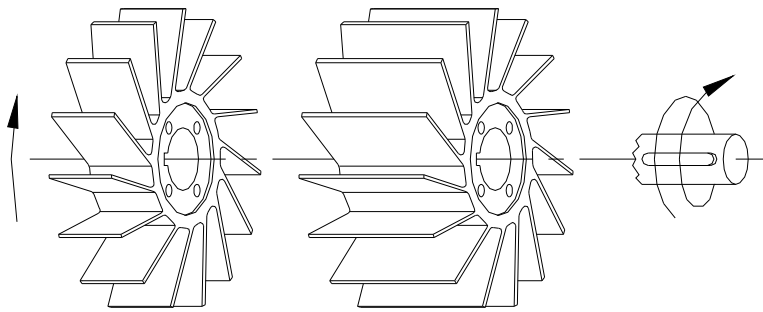

Fig. 24 - Pumps series TRH
- Place the pump in the vertical position resting it on the face of the bearing housing. Insert on the shaft the keys VDMA 940.1 (.2) of impeller VDMA 230 (.1) depending upon the pump series. Place on discharge casing VDMA 107 three (3) small paper spacers having 0.1 mm thickness (impeller spacers that will be discarded as soon as the pump starts rotating). With a brush or similar tool apply the Loctite product "SUPERBOND 320" or similar glue on the shaft area where the 2nd stage impeller will be placed. Slide on the shaft the 2nd stage impeller VDMA 230.1 making sure the impeller blades point to the direction of the pump clockwise rotation as indicated on the schematics fig 24 or 25 (for special constructions, with counter clockwise rotation, mount the impeller with the blades pointing to the opposite direction).
WARNING: Before inserting the impellers on the shaft, note that the direction of the blades for the pumps with c.w. rotation should be as per drawings on fig. 24 or 25 (for the c.c.w. rotation, reverse the orientation of the impeller blades).